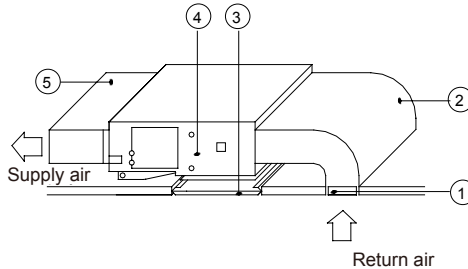

Fig.38
- (3). Connect one end of the return air duct to the return air outlet of the unit by rivets and the other to the return air louver. For the sake of the convenience to freely adjust the height, a cutting of canvas duct will be helpful, which can be reinforced and folded by 8# iron wire.
- (4). The installation method consider the conditions of the building and maintenance etc, as shown in Fig.38.